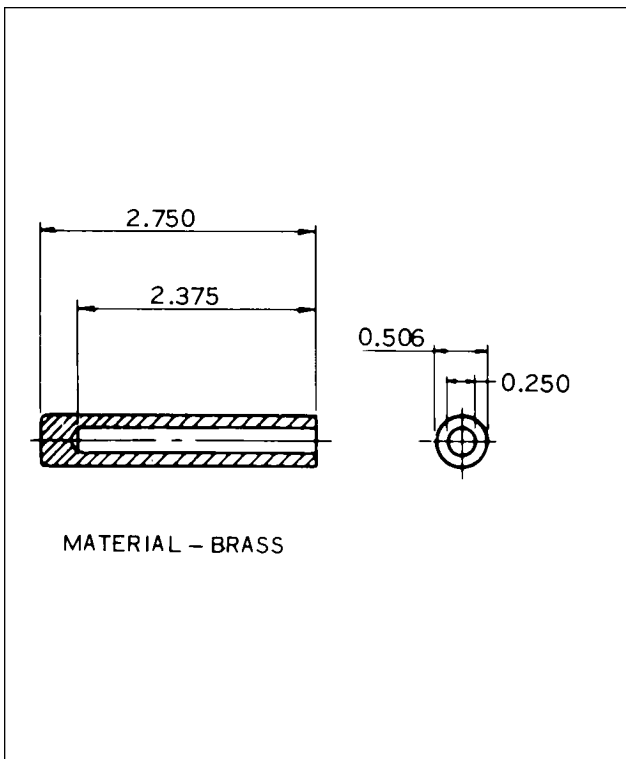

Figure 74-15. Ferrule Seating Tool
- L. Pull the lead assembly back through cable outlet plate until cleaned braid binds in the outlet well. Position the Bendix 11-7074 Ferrule Seating Tool (Figure 74-15) over the insulation and firmly seat the ferrule by tapping the seating tool with a hammer or by using an arbor press.